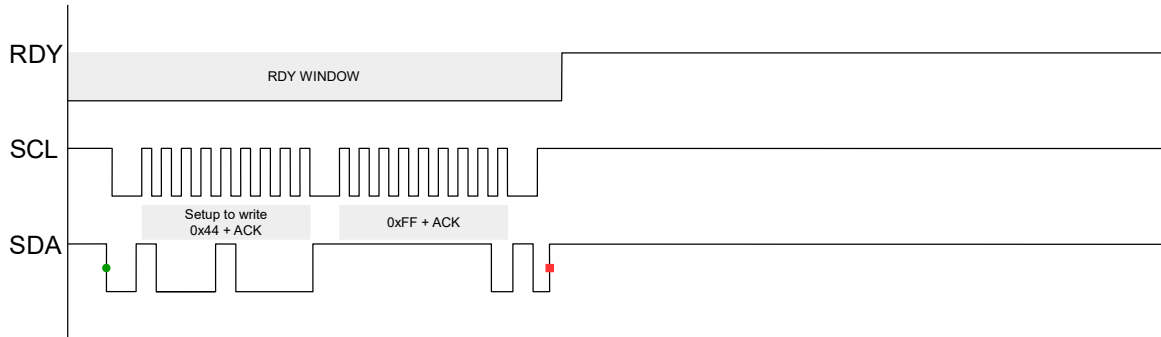

Figure 9.4: Force Stop Communication Sequence
- > Writing a single 0xFF byte will close the communication window, as illustrated in Figure 9.4.